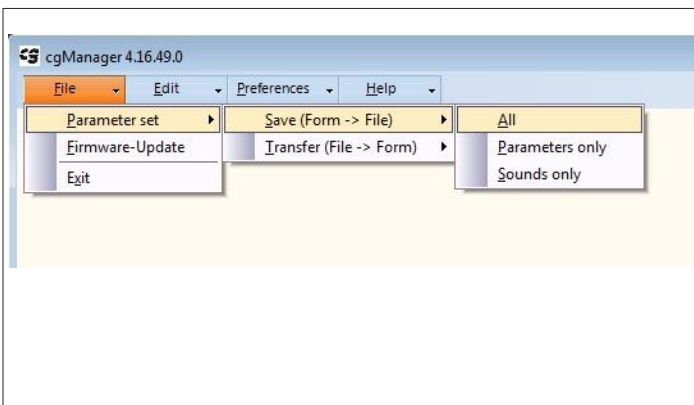

Fig. 87
- This opens the following window (Fig. 87).